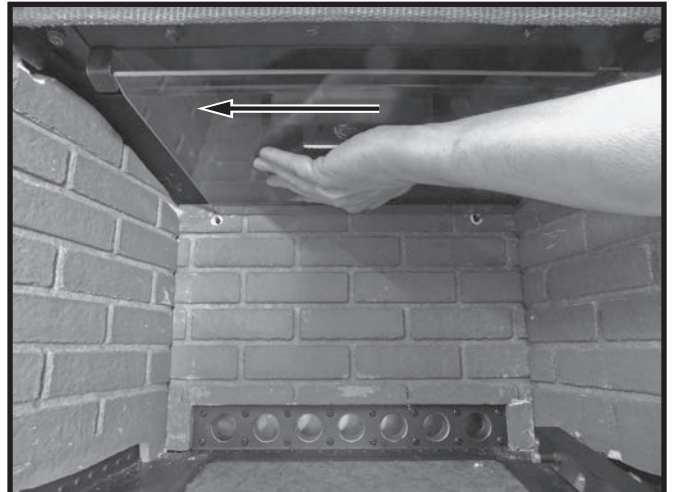

Figure 32: Sliding baffle over to rest on top of supports.
3. Slide the baffle over so that it is supported by all four supports (Figure 32).